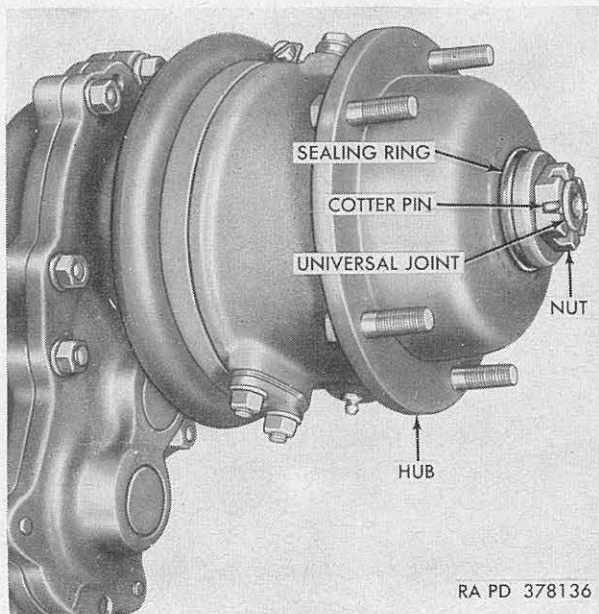

Figure 65. End of axle with wheel and hubcap removed.
- (2) Pry hubcap off wheel hub (fig. 65) and remove sealing ring from end of hub.
- (3) Remove cotter pin (fig. 65) and hex nut from end of universal joint and pull wheel hub off splines.
- (8) Push wheel hub (fig. 65) onto splines on universal joint and secure with  $\frac{7}{8}$ -14NF slotted hex nut and  $\frac{1}{8}$  x  $1\frac{1}{4}$  cotter pin.
- (9) Install sealing ring (fig. 65) in annual groove in wheel hub and tap hubcap onto end of hub.
- (10) Position wheel on wheel hub and secure with five plain washers, lockwashers, and  $\frac{3}{8}$ -24NF self-locking nuts tightened to a torque of 20 to 30 pound-feet.